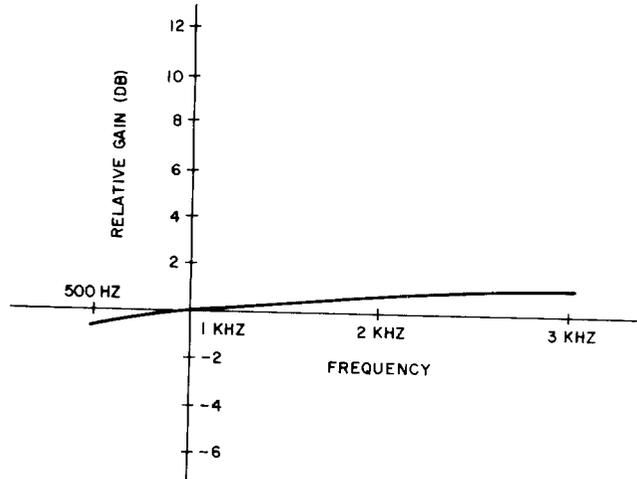

Fig. 3—Amplifier Frequency Response of J99343GB
3.02 Figure 3 gives the amplifier response of the unit.